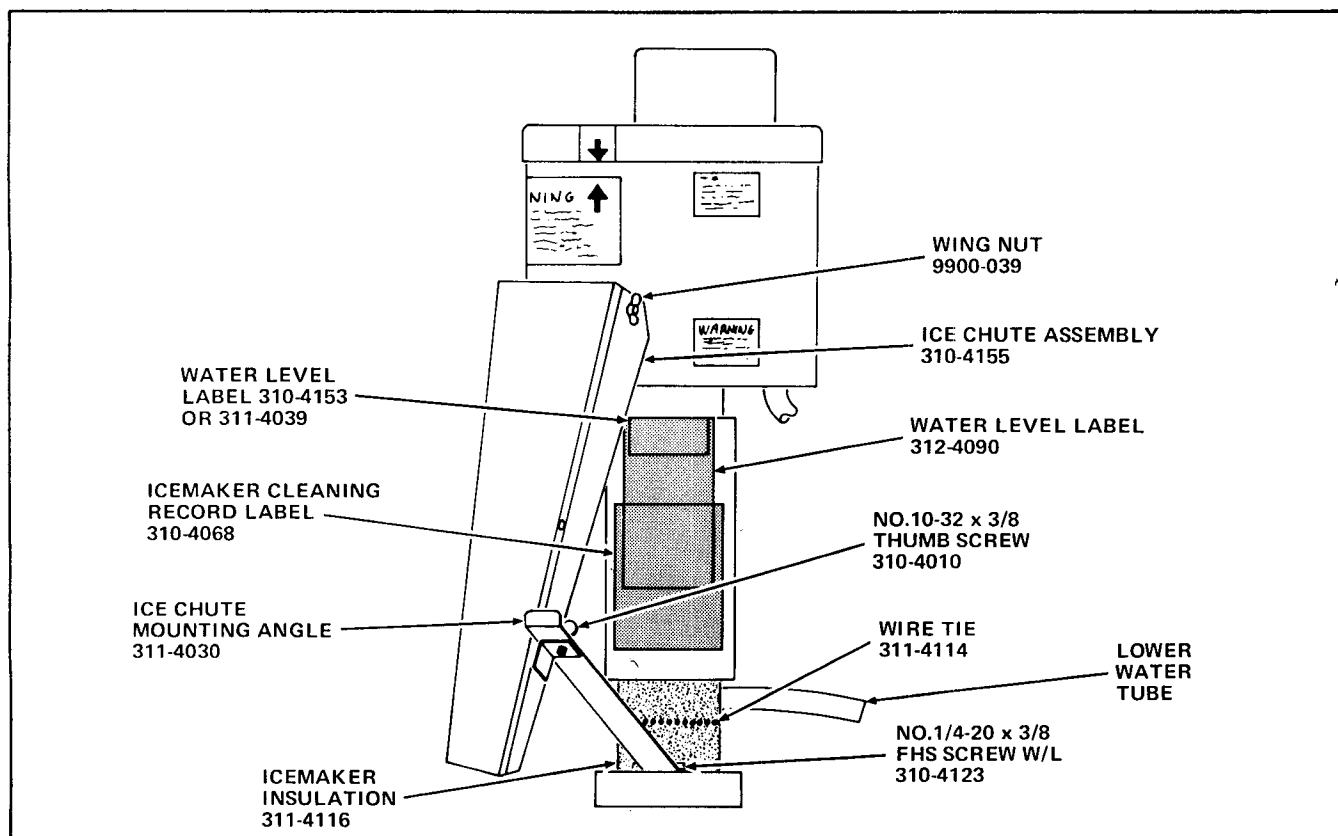

FIGURE IV-1
- A. Attach the appropriate Water Level Label to the replacement Icemaker Assembly Evaporator. See Figure IV-1.
- B. Attach the Icemaker Cleaning Record Label (part number 310-4068) to the replacement Icemaker Assembly Evaporator. See Figure IV-1.
- C. Install the Icemaker Insulation (part number 311-4116) around the Lower Bearing Housing of the replacement Icemaker Assembly. Attach the Insulation with one of the Wire Ties (part number 311-4114). See Figure IV-1.
- D. If the replacement Icemaker Assembly is to be installed in a Merchandiser that is equipped with a National Vendors, Cool-San Manually Actuated Automatic Icemaker Cleaning System, cut the lower plastic tube (Lower Water Tube) on the Icemaker Assembly to a length of 4 3/4". Use a sharp knife and make a clean square cut. See Figure IV-1.
- E. Install the replacement Ice Chute Mounting Angle, Part Number 311-4030, included in the Kit, on the replacement Icemaker. See Figure IV-1. Attach the Angle with the 1/4 - 20 x 3/8 Screw/Lockwasher, Part Number 310-4123,
included in the Kit. Install the replacement Ice Chute Assembly, Part Number 310-4155, included in the Kit, on the Icemaker. Attach the Chute Assembly to the Icemaker Hopper with the Wing Nut, Part Number 9900-039, included in the Kit, and to the Mounting Angle with the Thumb Screw, Part Number 310-4010, included in the Kit. Place the Ice Chute Cover, Part Number 310-4157, included in the Kit, on the Ice Chute Assembly by fitting the bosses on the Ice Chute Assembly in the holes in the Ice Chute Cover. See Figure IV-1.